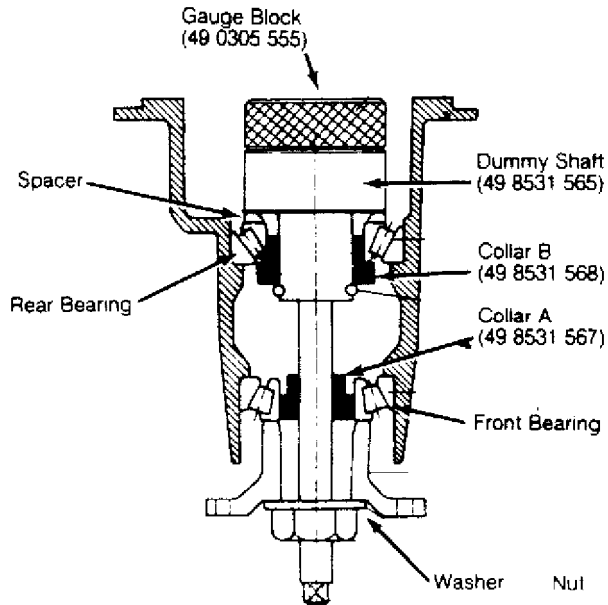

Fig. 4: Dummy Pinion Shaft and Gauge Block
1) Make sure differential bearing bores are free of dirt and burrs. Install front and rear bearing races, then spacer and rear bearing. Install collar "B" (49 8531 568) on dummy drive pinion (49 8531 565) and secure them with "O" ring. See Fig. 4.